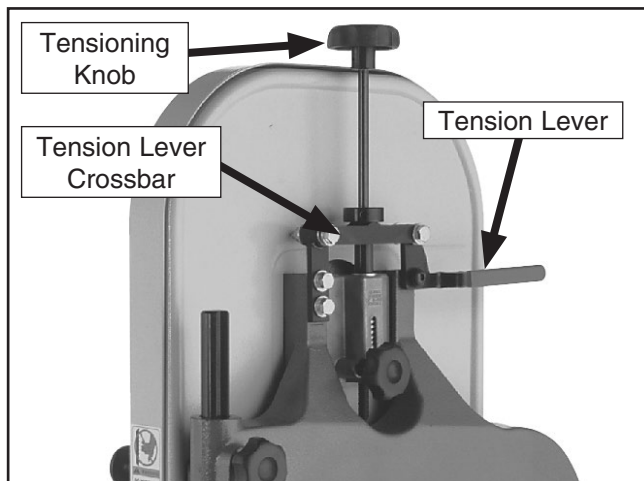

Figure 50. Blade tension controls/components.
2. Release the tension lever shown in **Figure 50** and remove the bandsaw blade.
5. Back the spacers away from the tension lever crossbar shown in **Figure 50**.
7. Pull up on the tensioning knob (**Figure 50**) until the blade touches the wheel.